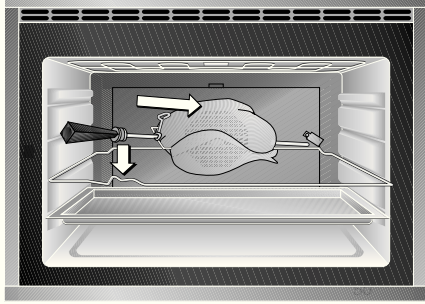

Fig. 39
- Fit the rotary spit in the rotary spit drive. (Fig. 39) Unscrew the handle from the rotary spit and close the oven door.